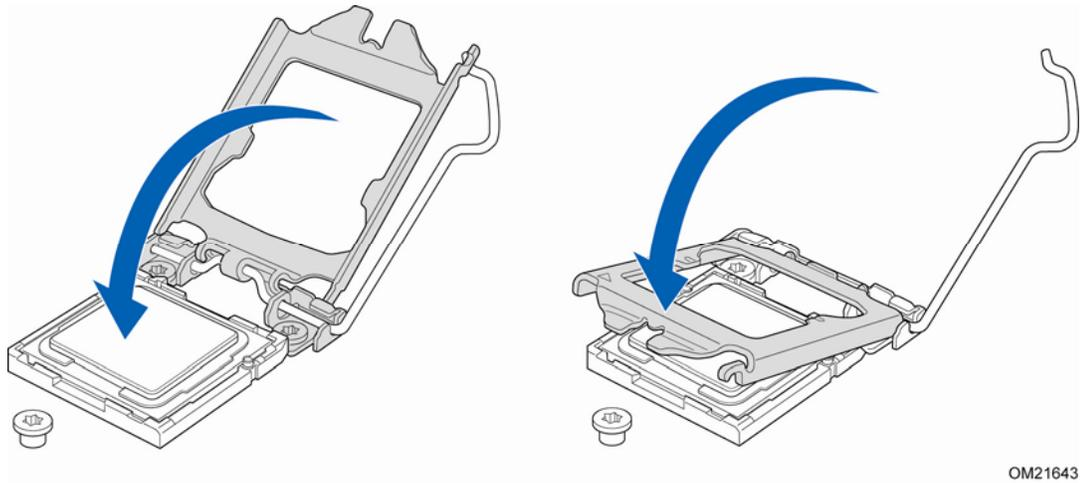

Figure 15. Lower the Load Plate
7. Lower the load plate over the processor while leaving the socket lever in the open position (Figure 15).